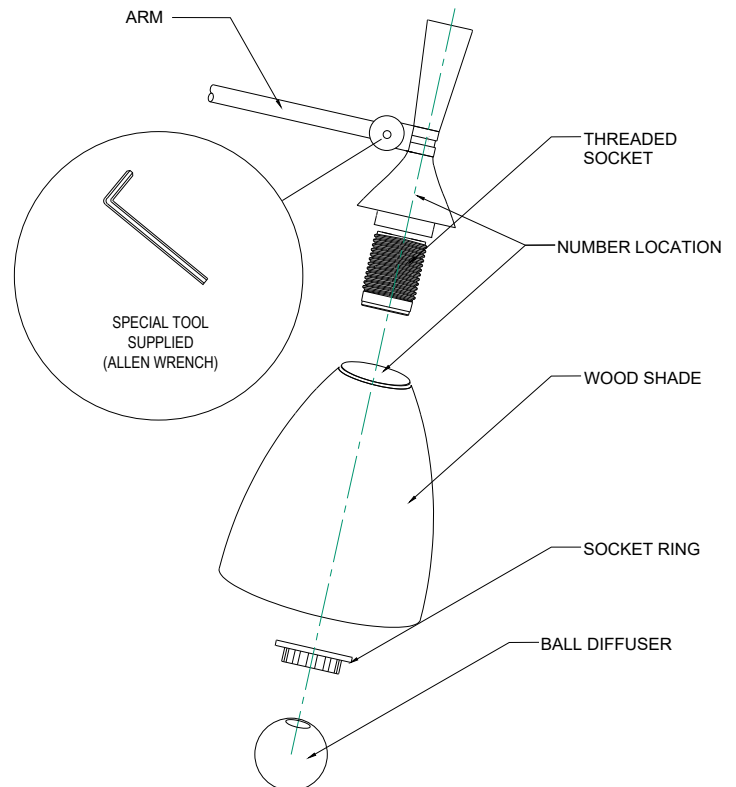

FIGURE-03
- Install the wood shade to the arms, Follow the wood schedule by numbers fasten the socket ring to the threaded socket to secure it. Attach the ball diffuser to the socket. (See Figure-03).